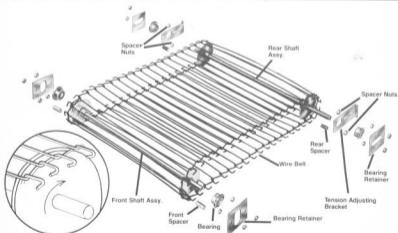

Figure 8
XII Conveyor Chain (RT-2/RT-2VS/RT-2AR/RT-2CC) See Figures 8 & 9
5. Before installing new chain, check for proper orientation (See Figure 8), and correct number of links.
(RT-2/RT-2VS/RT-2AR/RT-2CC) See Figure 8**